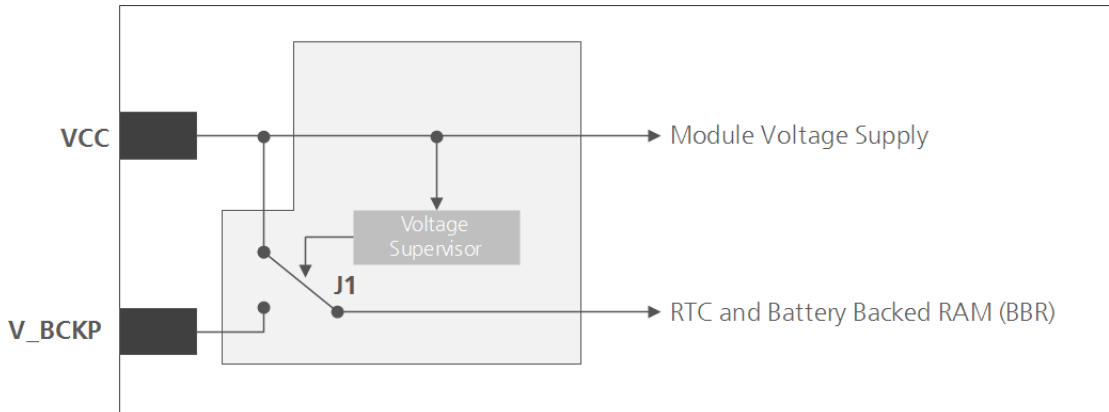

Figure 1: Backup battery and voltage (for exact pin orientation, see NEO-M8P Data sheet [1])
- While power is supplied to the NEO-M8P module through the **VCC** pin, the backup battery is disconnected from the RTC and the BBR to avoid unnecessary battery drain (see Figure 1). In this case, **VCC** supplies power to the RTC and BBR.